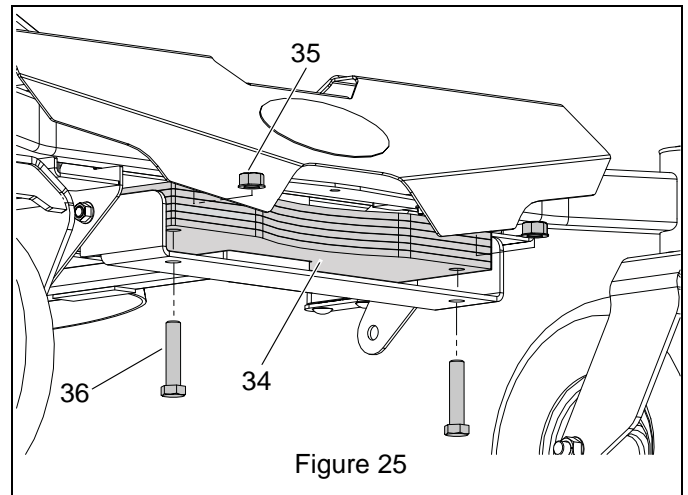

Figure 25
2. Insert six weight plates (item 34) into weight bracket and secure with two 1/2 x 2 1/4" hex bolts (item 36) and two 1/2" locking top flange nuts (item 35). See Figure 25.
9. Remove weights and hardware and retain. It is not necessary to remove weight bracket. See Figure 25.